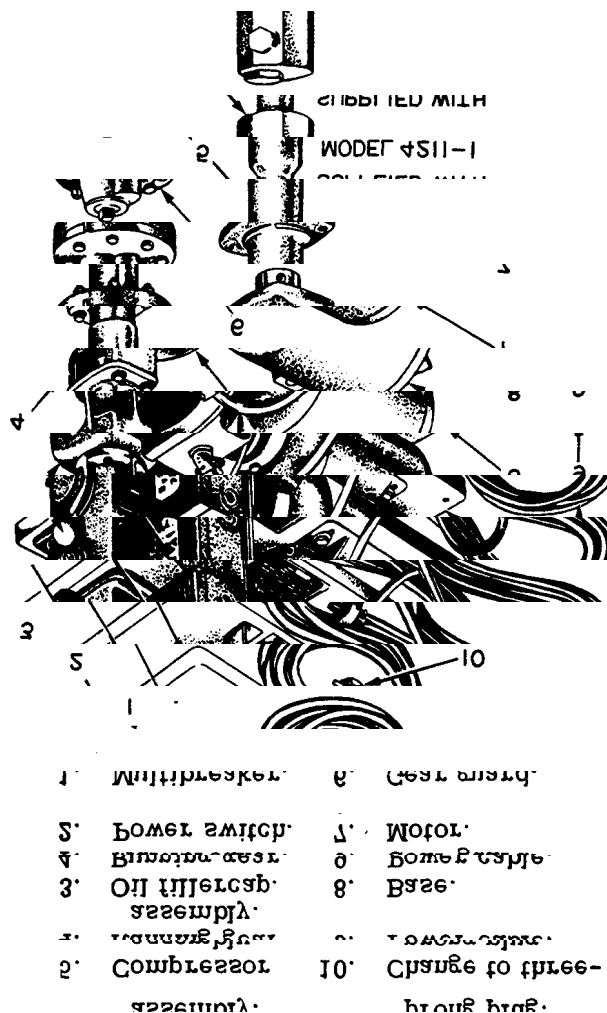

Figure 3-3.—Walter Kidde Electric CO₂ Transfer Unit, Model 4211.
to the cylinders and minor adjustments to the unit. Pump Models 4211 and 4211-1 are driven by a three-fourths horsepower motor and are equipped with a safety switch and lead fitted with a plug. Three-prong plugs and three-wire leads should be substituted for the ordinary two-wire and two-prong arrangement. Pump Models 4306 and 4306-1 are driven by a single-cylinder, four-cycle, three-fourths horsepower, air-cooled engine. Figure 3-3 illustrates the Walter Kidde electric recharge unit, Model 4211.
The carbon dioxide transfer unit (figure 3-3) consists of the following major components: compressor assembly (5), running gear assembly
The repulsion start induction single-phase motor, shown in figure 3-3, is a 115- to 230-volt, 60-cycle, three-fourths horsepower unit. It operates at 1750 rpm and draws 9.8 amperes at 115 volts. This type of motor supplies very high starting torque with a very low starting current. In starting, the motor has repulsion motor characteristics; but at running speeds, it functions as an induction motor since the motor windings are automatically short-circuited and the brushes are lifted from the commutator when the operating speed is approached.
The thermal, magnetic multibreaker, shown in figure 3-3, is a two-pole, 115-volt ac, 20-ampere unit installed to protect the power circuit from overloads. In addition, it acts as a manual ON/OFF switch for the operation of the transfer unit. If the multibreaker trips because of a power overload, you may reset it by placing the switch first to OFF and then to ON.
crankshaft (7) riding in two roller bearings (6 and 12) mounted in the end plates (5 and 11). Mechanical connection to the motor is made by means of a gear keyed to the crankshaft and meshed with the driving gear on the motor shaft. The two gears are enclosed by the gear guard (6, figure 3-3). Access to the oil reservoir within the crankcase is obtained through the oil filler cap (9). The crankcase can be drained by removing the drain plug (8).